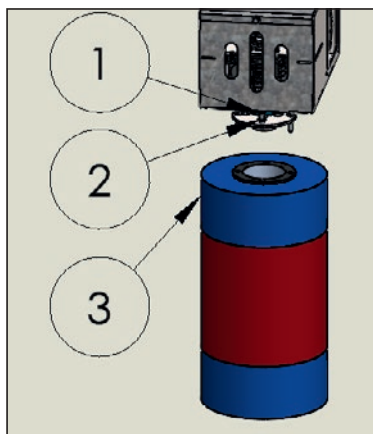

Figure 4: Mounting the brush with the drive unit.
2. Attach the brush to the drive unit using the four screws (Fig. 4, Item 1) and washers (Fig. 4, Item 2).